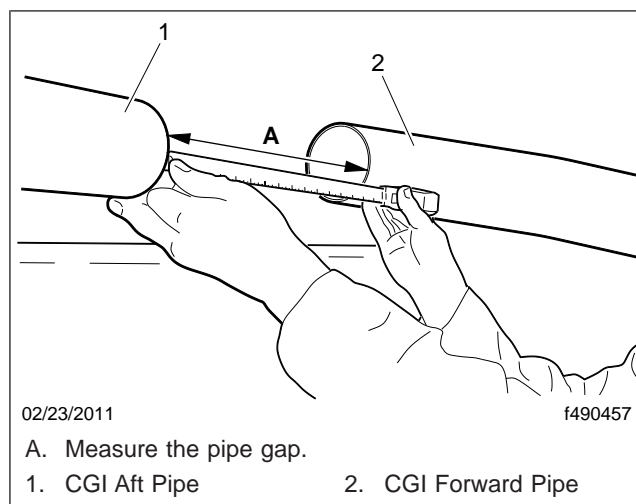

Fig. 3, Measuring the Pipe Gap (typical)
7. Once the pipes are aligned, measure the pipe gap between the CGI pipes and record the distance. See Fig. 3, Ref. A.